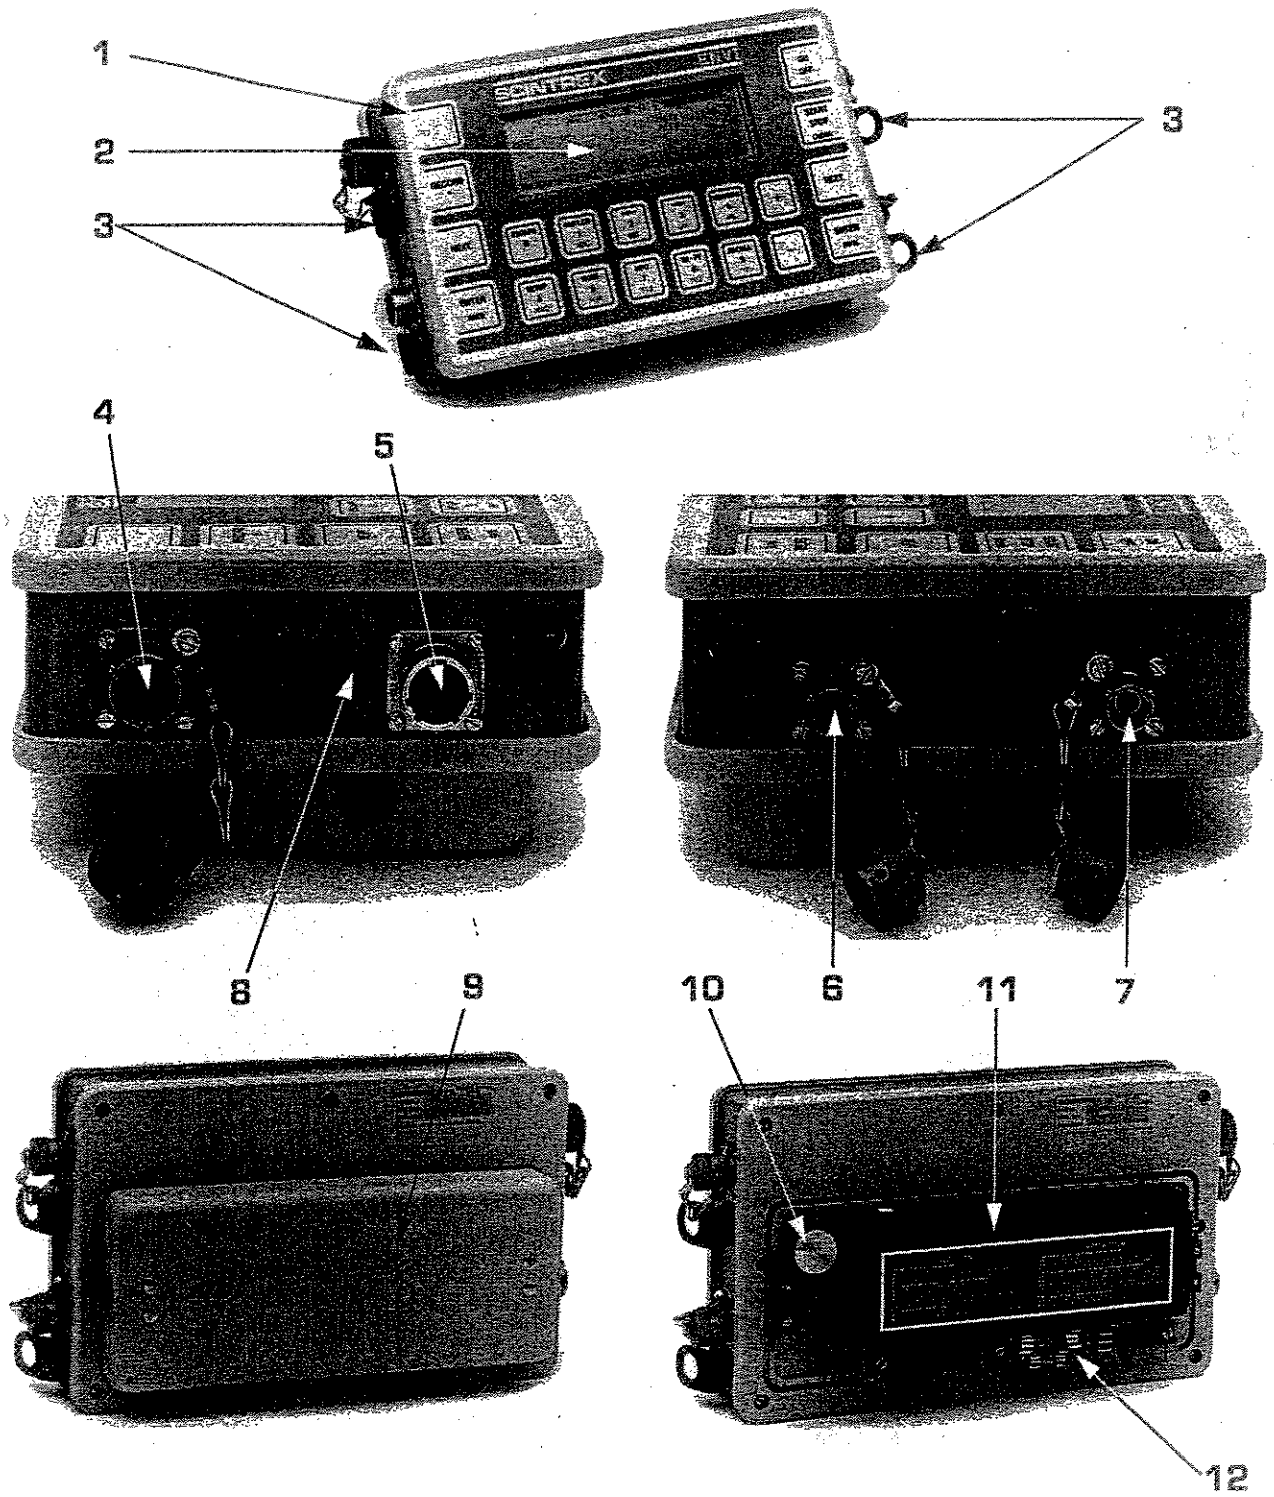

Figure 18 The ENVI system console.
2. **Plug in** the end of the cable with the single plug into the Charger Connector at the right-rear side of the ENVI system console. (See item 6 in Figure 18 on page 3-2.)